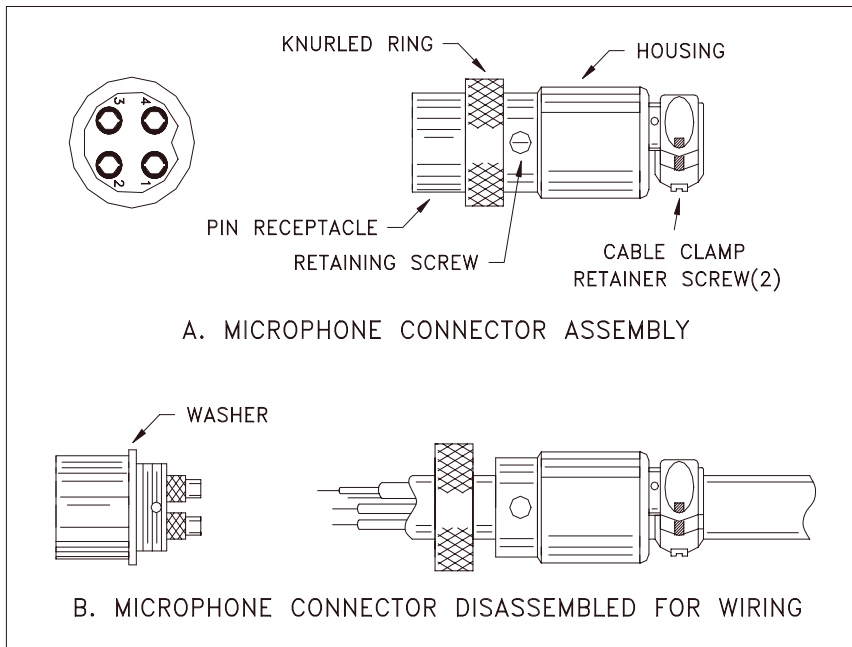

Fig. 2 Microphone plug wiring
Be sure that the housing and the knurled ring of Fig. 2 are pushed back onto the microphone cable before starting to solder. If the washer is not captive to the pin receptacle body, make sure that it is placed on the threaded portion of the pin receptacle body before soldering.
7. Feed the microphone cable through the housing, knurled ring and washer as shown Fig. 2.